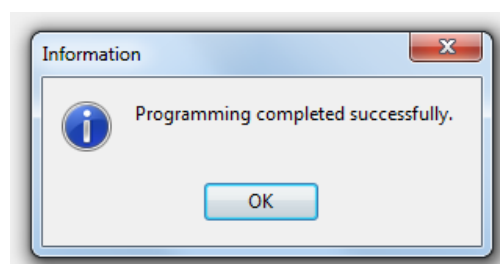

Fig. 23 Finish upload.
- Press: **OK** to finish upload (Fig. 23).